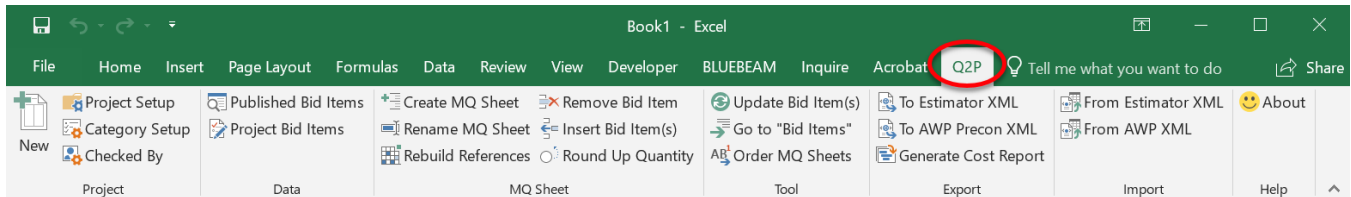

Figure 2.1 Q2P-specific commands found under the Q2P tab.
1. Open a new Excel workbook and navigate to the Q2P ribbon tab (Figure 2.1). This tab houses all of Q2P’s specific commands and functionality.